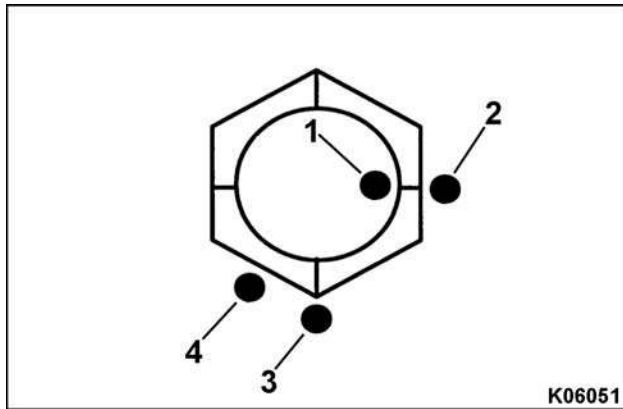

Figure 200 Cylinder head and head bolt torque markings
5. Using permanent marker, place a mark on each head bolt and put another mark on the head bolt socket directly in line with the mark on each head bolt. Put another mark on the cylinder head surface next to the head bolt mark. (Figure 200) Items 1 and 2
6. Place a mark on the cylinder head surface 90 degrees clockwise (CW) from each head bolt mark. (Figure 200) Item 3
7. Place a mark on the cylinder head surface 120 degrees (two hex flats) CW from each head bolt mark. (Figure 200) Item 4